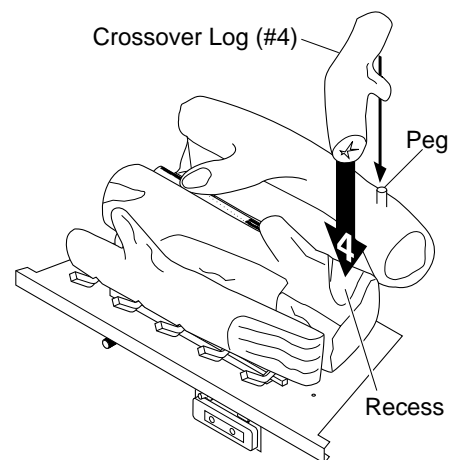

Figure 46 - Installing Crossover Log (#4)
4. Place crossover log (#4) onto the peg (right) on back log (#2) and into the recess of the middle log (#1) (see Figure 46).